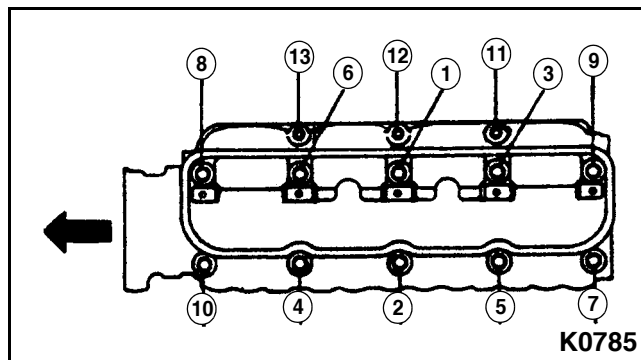

Figure 3-125
5. Torque cylinder head mounting bolts to specification in three steps in sequence shown. See Figure 3-125.